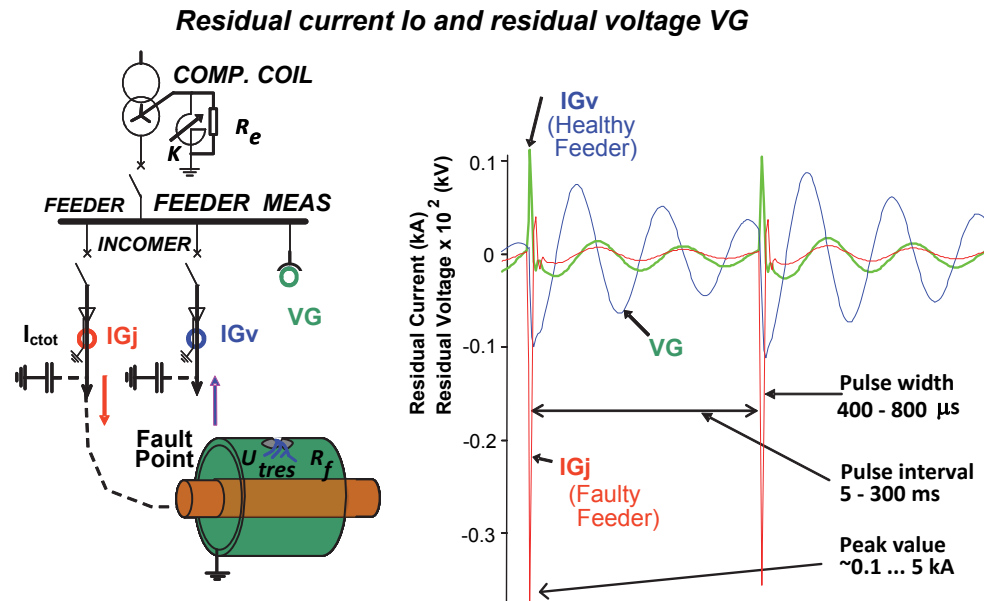

Figure 172: Typical intermittent ground-fault characteristics
Intermittent ground fault is a special type of fault that is encountered especially in compensated networks with underground cables. A typical reason for this type of fault is the deterioration of cable insulation either due to mechanical stress or due to insulation material aging process where water or moisture gradually penetrates the cable insulation. This eventually reduces the voltage withstand of the insulation, leading to a series of cable insulation breakdowns. The fault is initiated as the phase-to-ground voltage exceeds the reduced insulation level of the fault point and mostly extinguishes itself as the fault current drops to zero for the first time, as shown in Figure 172. As a result, very short transients, that is, rapid changes in the form of spikes in residual current (IG) and in residual voltage (VG), can be repeatedly measured. Typically, the fault resistance in case of an intermittent ground fault is only a few ohms.